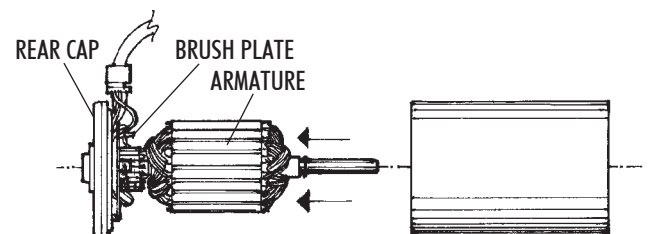

FIGURE 2—The end cap and armature are removed from the motor case.
4. Push the armature and rear cap from the motor body (See figure 2).